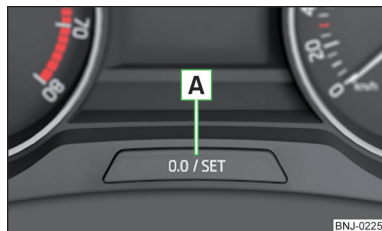

Fig. 33
- › Press and hold the button **A** » Fig. 33 until the **Service** is shown in the display.